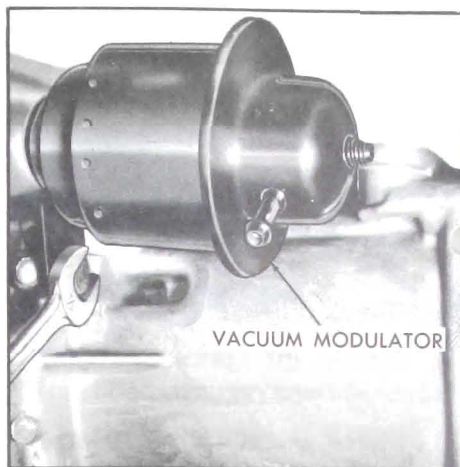

Figure 5-355
3. Install vacuum modulator retainer. Install retainer so tang points toward vacuum modulator. Torque bolt to 8-12 ft. lbs. See Figure 5-355.